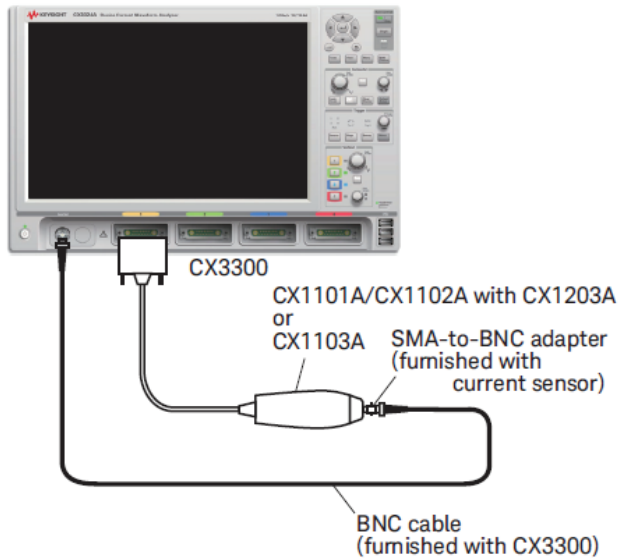

Figure 11. Connection diagram for the User Calibration
2. Connect the Aux Out and the current sensor to the furnished cable and adapter. Figure 11 below shows the connection diagram for the User Calibration.